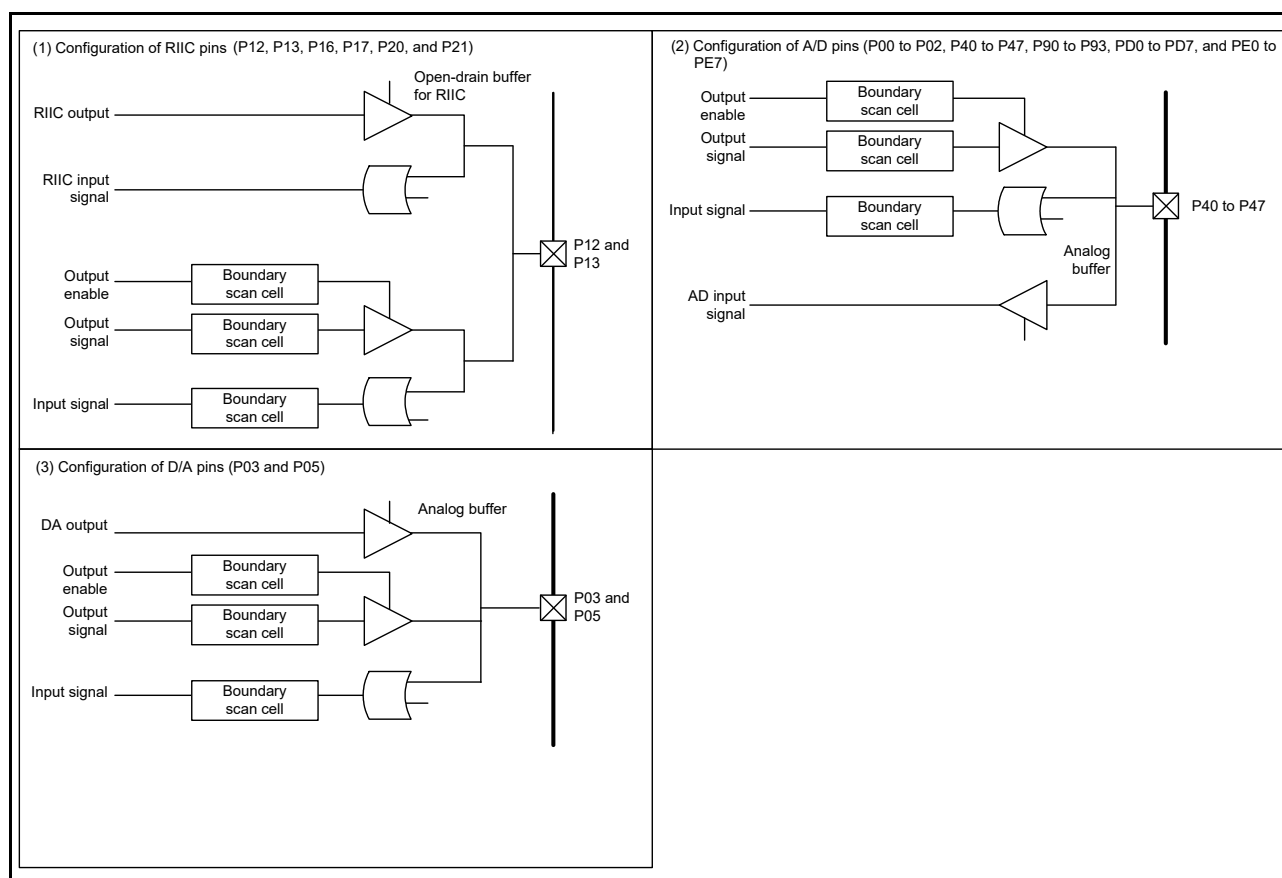

Figure 53.4 Pin Configuration
- (5) Clock pins (EXTAL, XTAL, XCIN, and XCOU) cannot be boundary-scanned.
- (6) Reset signal (RES#) cannot be boundary-scanned.
- (7) USB dedicated pins (USB0_DP, USB0_DM) cannot be boundary-scanned.
- (8) The on-chip emulator enable pin (EMLE) cannot be boundary-scanned.
- (9) The boundary-scan pin (BSCANP) cannot be boundary-scanned.
- (10) The boundary-scan pins (TCK, TMS, TRST#, TDI, and TDO) cannot be boundary-scanned.
- (11) The boundary-scan facility is not available when the chip is in the states below.
- (12) For a pin that incorporates open-drain functionality and for which the open-drain function is enabled, if the boundary-scan function sets the corresponding bit in the output scan register and output enable register to 1, executing an EXTTEST, CLAMP, or SAMPLE/PRELOAD instruction makes the pin output the high level rather than placing it in the high-impedance state.
- (13) Be sure to satisfy the standards for the boundary scan function when multiplex ports are used. Figure 53.4 (1) shows the pin configuration of the multiplex port pins in combination with the RIIC pins (P12, P13, P16, P17, P20,
- (14) Figure 53.4 (2) shows the pin configuration of the pins P00 to P02, P40 to P47, P90 to P93, PD0 to PD7, and PE0 to PE7. When the boundary scan function is used with pins P00 to P02, P40 to P47, P90 to P93, PD0 to PD7, and PE0 to PE7 to be used as AD input pins (AN000 to AN007, ANEX0, ANEX1, and AN100 to AN120), the conflict with the AD input or sneak current might be generated.
- (15) Figure 53.4 (3) shows the pin configuration of pins P03 and P05. When the boundary scan function is used with pins P03 and P05 to be used as DA output pins (DA0 and DA1), the conflict with the DA output or sneak current might be generated.
- (16) The HIGHZ mode option of the MD pin is not available.